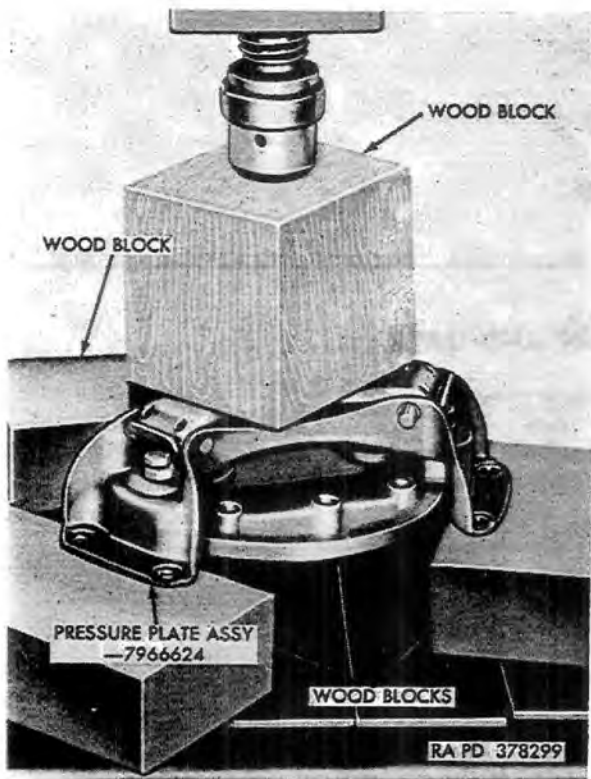

Figure 72. Clutch pressure plate blocked in press for disassembly or assembly.
Removal of Clutch Adjusting Screw. Remove the three return clips (F) from the three levers (E) and adjusting screws (G). Place the pressure plate assembly in a press (fig. 72). Place a wood block 3½ inches square on top of the clutch levers. Depress the clutch levers, and remove the three adjusting screws (G), lock nuts (H), and washers (J) to release the pressure plate (A). Release the pressure on levers slowly and remove the springs (D) from the bracket (B).
a. Assemble three serviceable clutch levers (E) to bracket (B) with new pivot pins (C). Rivet ends of pivot pins.
b. Locate pressure plate (A) and bracket with levers assembled (a above) in a press (fig. 72). Install three clutch pressure springs (D) in bracket (B) and compress springs. Install three cap screws (G), locknuts (H), and washers (J) in pressure plate (A). Adjust the adjusting screw and locknuts